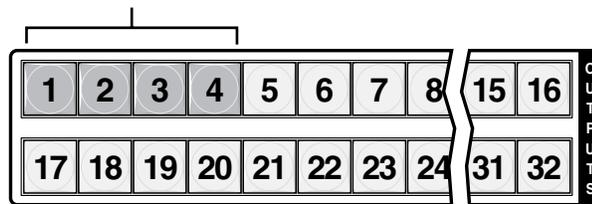

Figure 3-33 — Assign inputs and outputs
- Press and release the input 1 through 4 and output 1 through 4 buttons (figure 3-33).